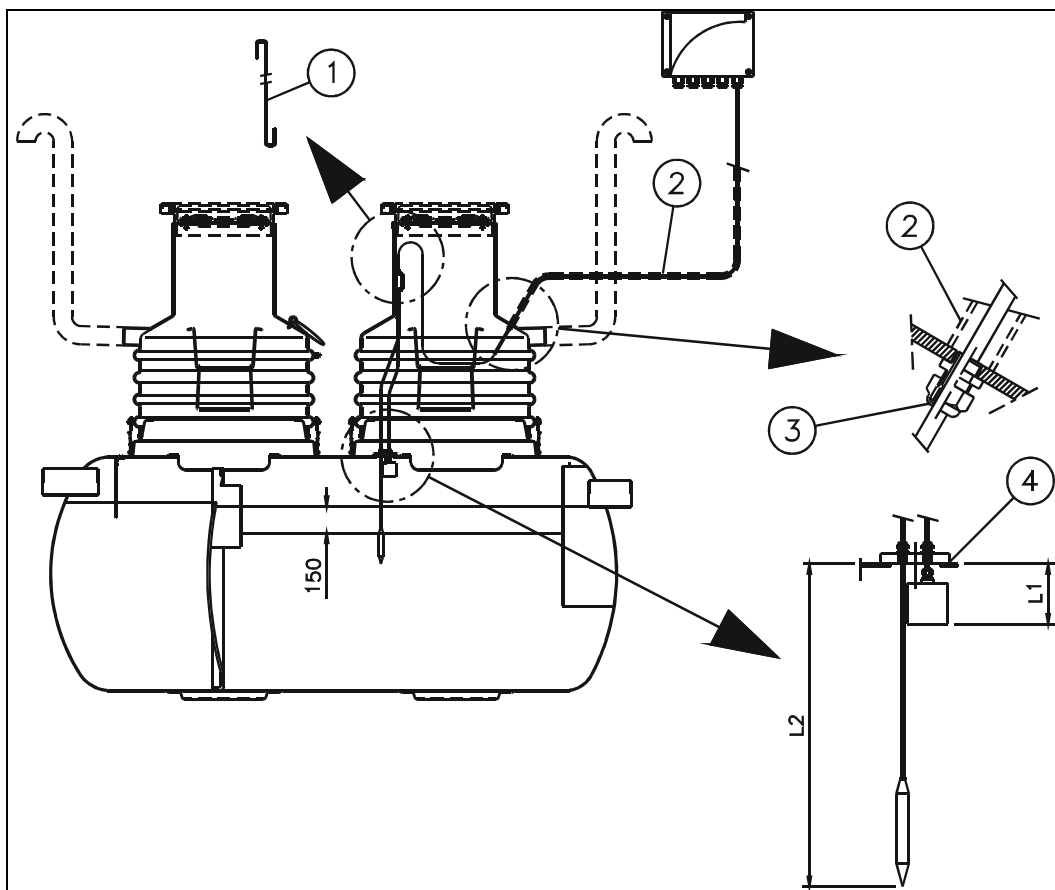

Figure 2. Installing the alarm probes .
4. The probe cables are delivered in exact length, ready for installation. (*Figure 2*)
9. Pull the cable of the alarm system in a protecting tube from the maintenance shaft into the building. Install the alarm probes in the separator. (See **Figure 2** on page 5)